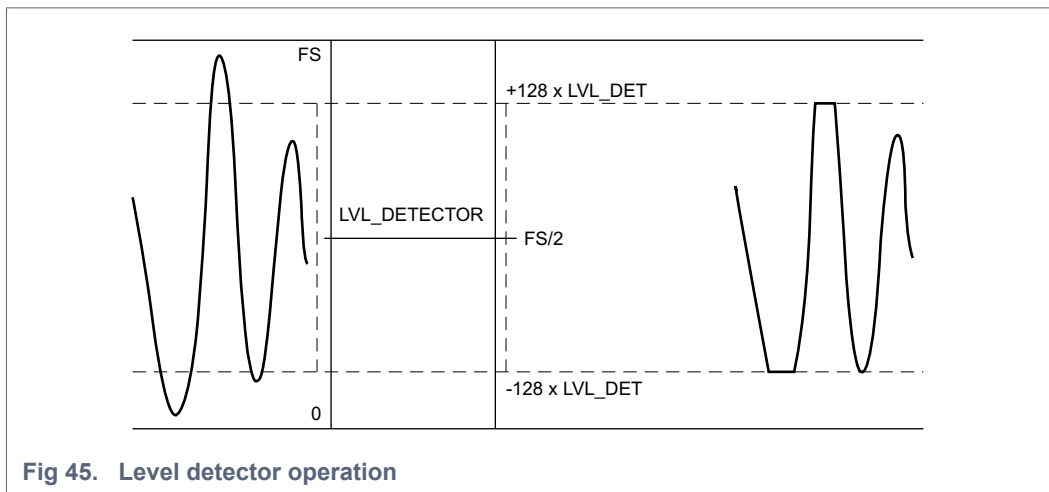

Fig 45. Level detector operation
A level detector feature is available at the end of the digital path. It can be enabled using bit XY\_CLIP\_LEV\_EN. This feature specifies a signal output range limited (or clipped) to  $-128 \times \text{LVL\_DET\_XY}$  to  $+128 \times \text{LVL\_DET\_XY}$  around the half Full-Scale (FS). If the signal value enters the upper or lower clipping area, it is clipped to  $+128 \times \text{LVL\_DET\_XY}$  or  $-128 \times \text{LVL\_DET\_XY}$ , respectively). Figure 45 shows this behavior.